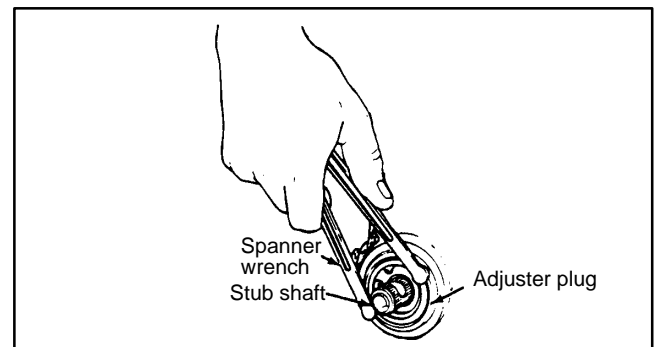

Figure 34
- B. Remove bearing retainer (Item 32) by prying at raised area, then remove seal and needle bearing (Fig. 34).